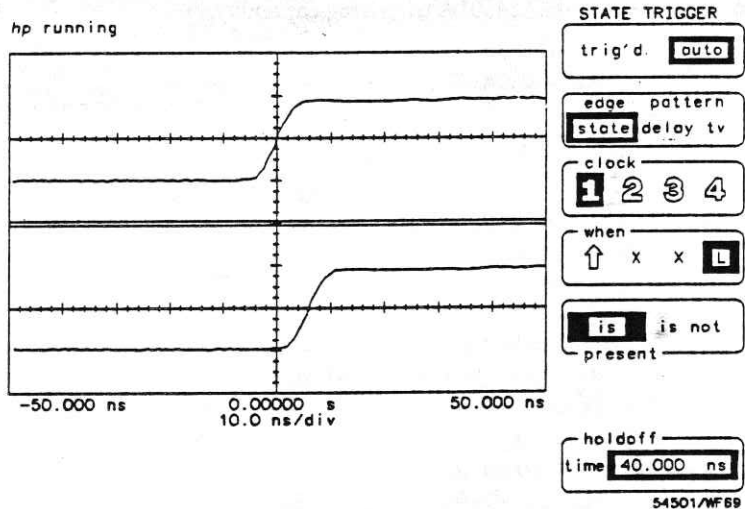

Figure 6-11. Channel 1 Clock XXL State
- - Press the when key until **is present** is selected (see Figure 6-11).